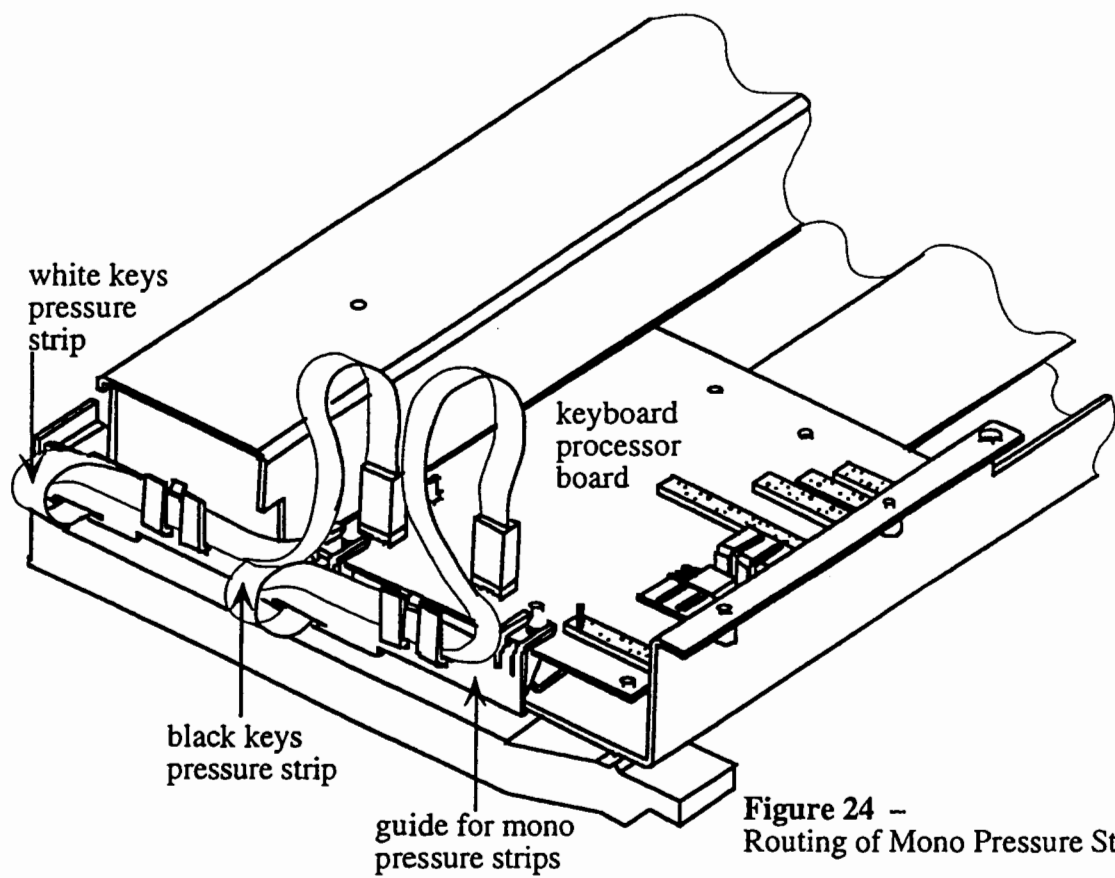

Figure 24 –
6. Remove the four (4) self-tapping screws that hold the keyboard processor board to the keyboard's key contact PCB.
10. **Hold the mono pressure strip guide in place with one hand** and slide the keyboard processor board into the guide clips. The clips should fit into the holes on the keyboard processor board. See Figure 24.
12. Install the four (4) screws through the keyboard processor board and plastic standoffs into the keyboard key contact PCB (see step 6).
14. Install the other keyboard bracket over the keyboard processor board and fasten it with the six (6) screws.
13. Install the keyboard processor board using the four screws. See Figure 24 for the routing of the mono pressure strips.